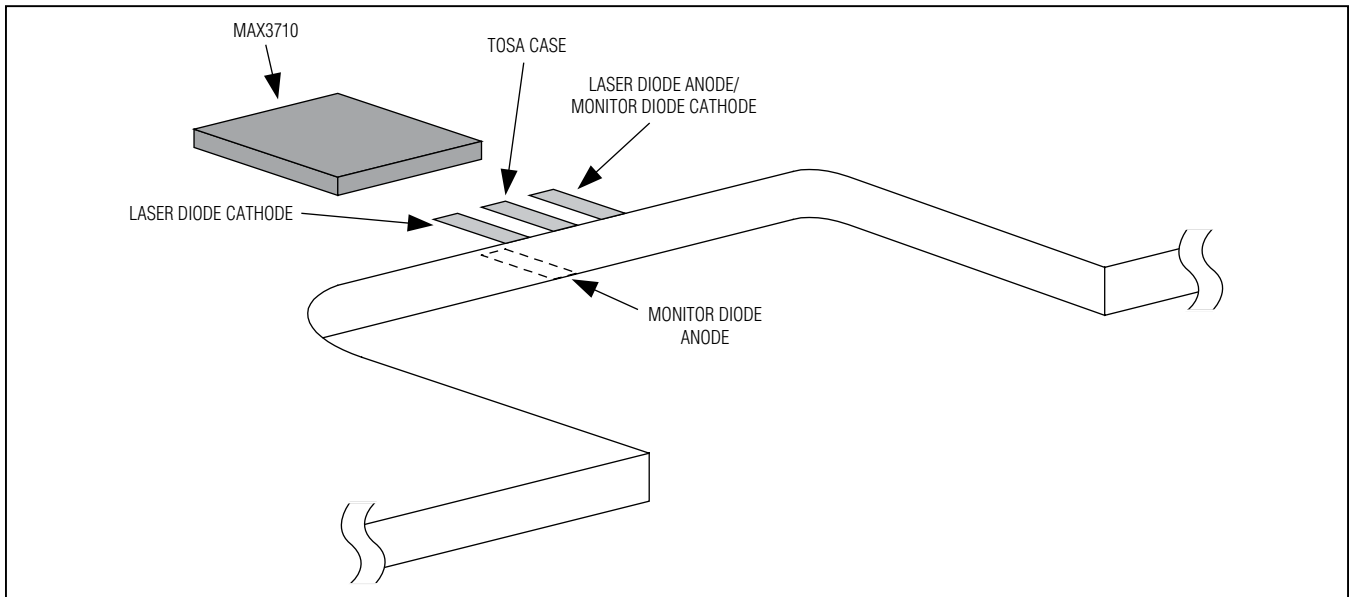

Figure 1. TOSA Connection
- 1) Solder a laser to connection D5. See Figure 1 for more information about the laser connection.
- 4) If BEN is to be operated through the SMA connectors, connect a 50Ω source to BEN+ and BEN- (J5 and J6). Set the source differential amplitude to 500mVp-p and the common-mode voltage to 2V. See Figure 1 of the MAX3710 IC data sheet for more information on the acceptable differential and common-mode voltages at BEN.